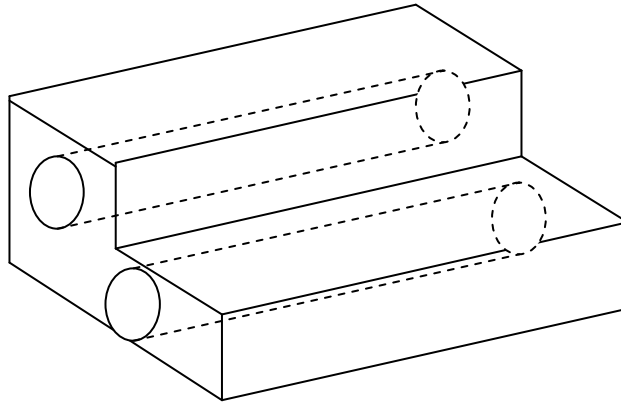

Fig Q5.1: Block with two through holes
- b) Apply validity to the diagram shown in Fig Q5.1. [3]
- c) For the object shown in Fig Q5.1; Calculate the Euler coordinates and explain its relevance in commercial draughting packages. [14]